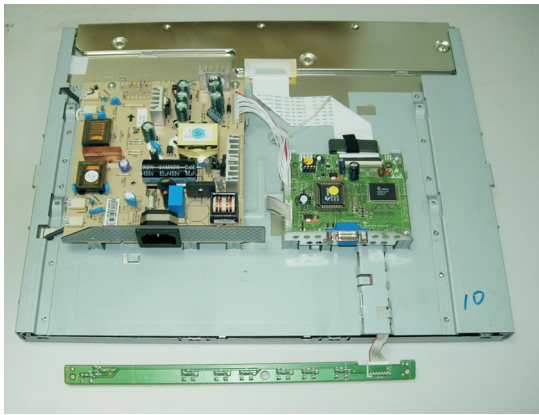

Fig.12
- Remove the matel frame as shown in Fig.12